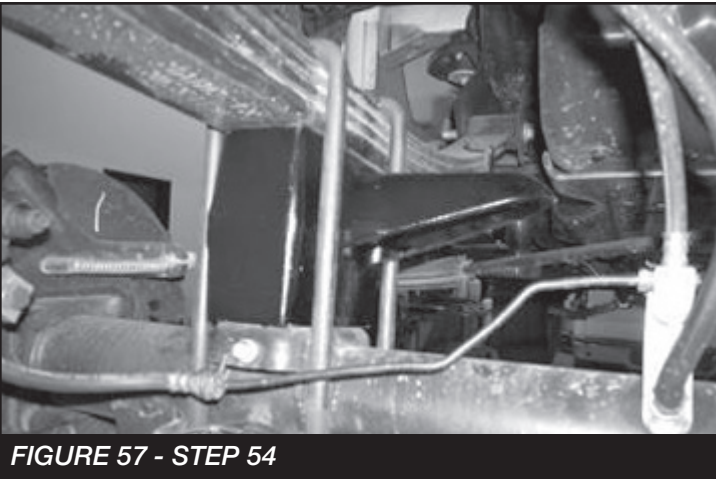

FIGURE 57 - STEP 54
54. Locate the rear driver side shock extension FT30531BK. Install the boss on the shock extension into the factory shock mount using a M12-1.75 x 80 mm bolt. Leave loose at this time. **SEE FIGURE 57**